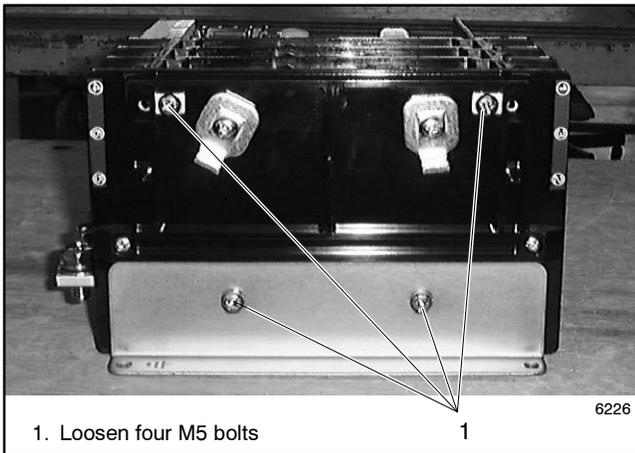
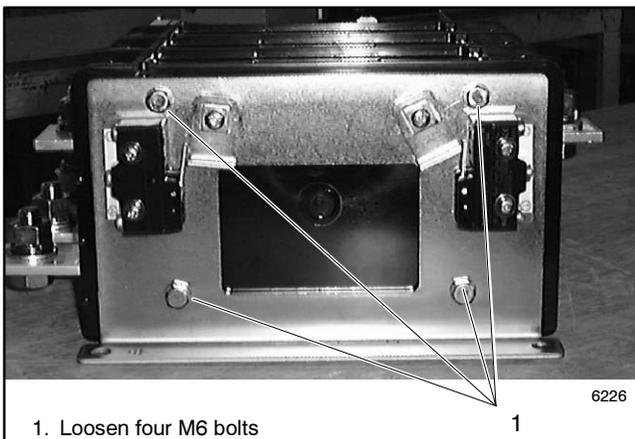
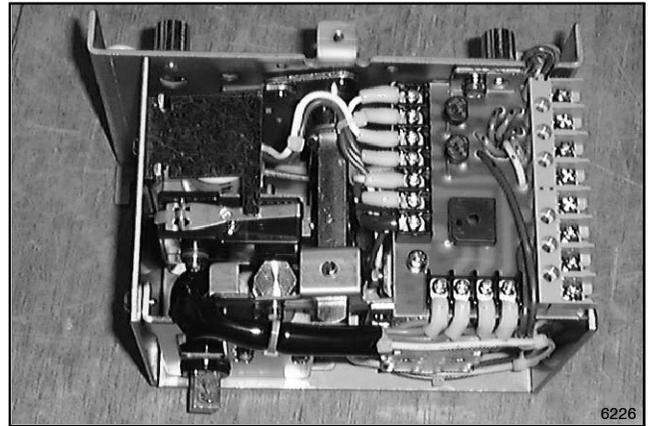

Figure 6-4 Separating Units, 100 and 200 Amp
Figure 6-5 Separating Units, 400 Amp
Figure 6-6 Mechanical Unit
4. Loosen four bolts and separate the mechanical unit from the current-carrying unit. See Figure 6-4, Figure 6-5, and Figure 6-6.